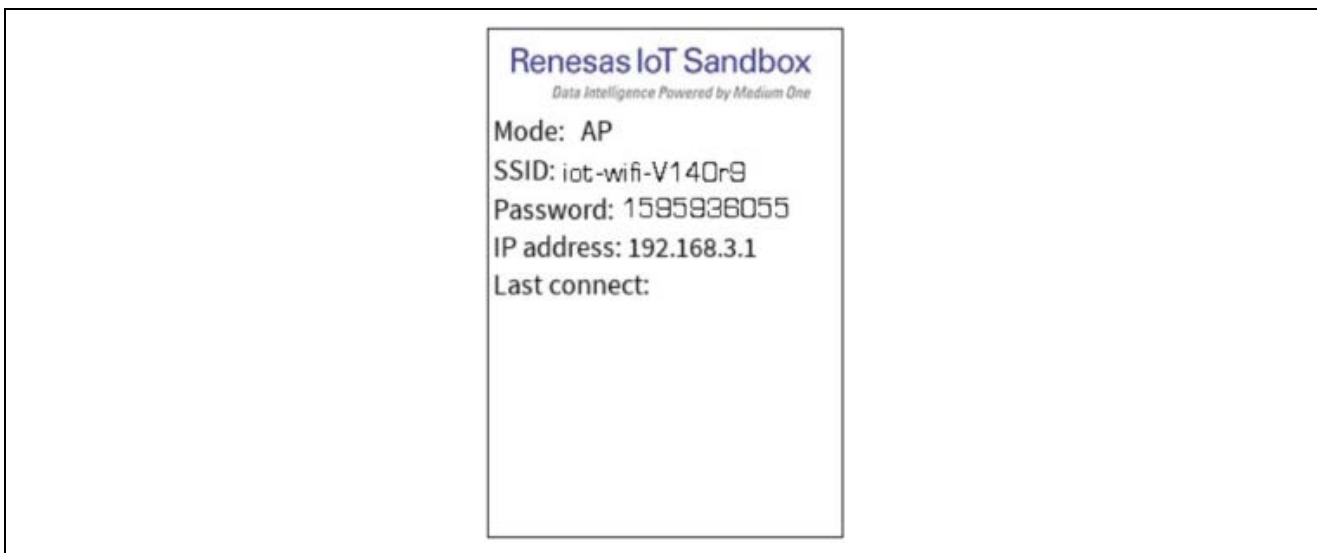

Figure 5 Access point mode
- If this is your first time provisioning the board with a WiFi adapter, you will see the picture as shown in Figure 5. Connect your computer to the board's WiFi access point using the WiFi on your computer. The SSID and password is printed on the SKS7 display. This is a WiFi Access Point served by the board and is a unique SSID. **Note: Keep a copy of your activation email readily available. Once connected to the board's WiFi Access Point, you will not have internet access on your computer.**